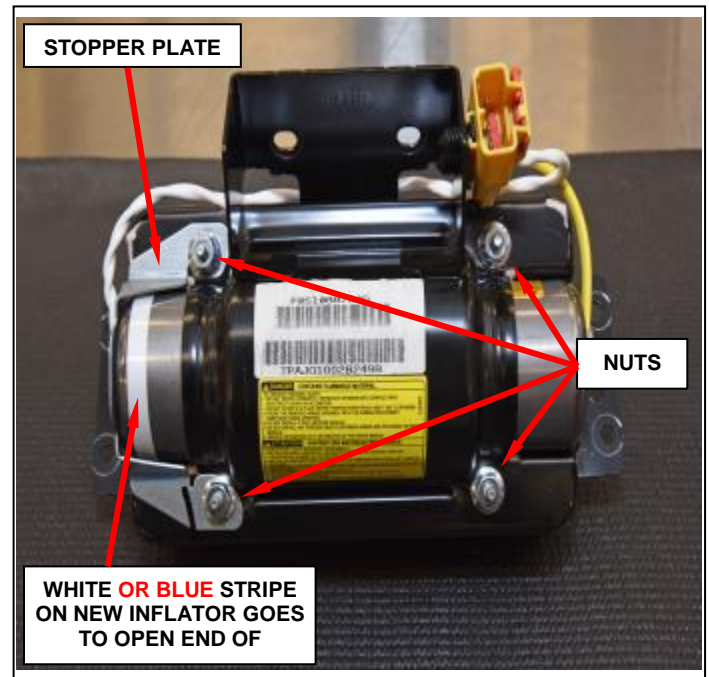

Figure 110 – Stopper Plate and Nuts
- o. Position the stopper plate to the airbag housing (Figure 110).
- p. Install the four **NEW** mounting nuts to the airbag housing and tighten to 53 in. lbs. (6 N·m) (Figure 110).